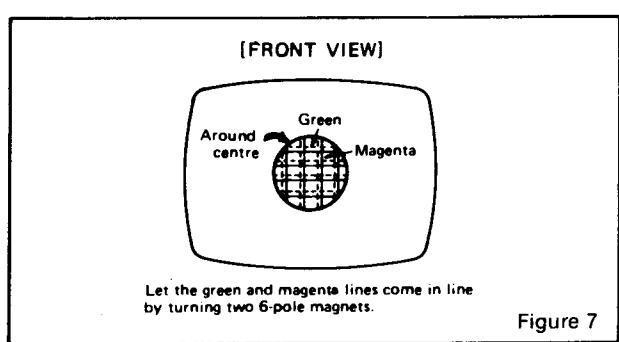

Figure 7
- 2.6 Turn on green input to obtain magenta (red/blue) and green crosshatch lines. Rotate the 6-pole (rear) pair of magnets as a unit to minimize separation of the magenta and green lines (figure 7). Vary angle between the two tabs and further rotate as a unit to finalize.
2. A pair of 4-Pole Convergence Magnets are provided and adjusted to converge the blue and red beams. When the Pole opens to the left and right 45° symmetrically, the magnetic field maximizes. Red and blue beams move to the left and right oppositely (See Fig. 7-a and 7-b). Variation of the angle between the tabs adjusts the convergence of red and blue vertical lines.